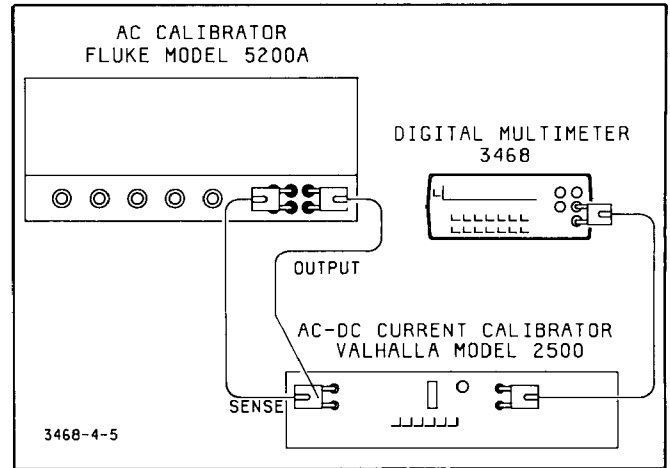

Figure 4-5. AC Current Accuracy Test
e. Connect the AC Calibrator to the AC-DC Current Calibrator as shown in Figure 4-5.
f. Connect the 3468A/B to the AC-DC Current Calibrator as shown in Figure 4-5.